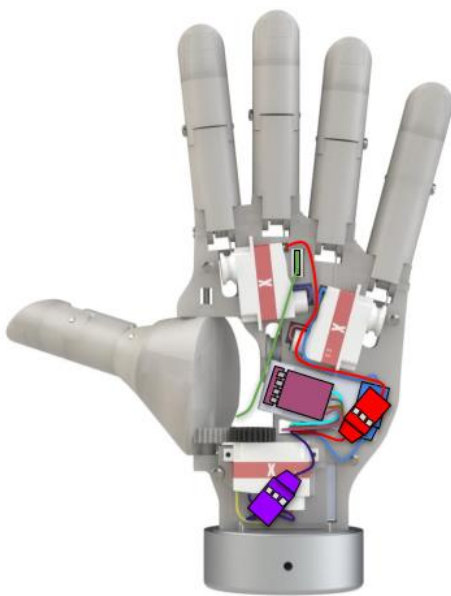

Figure 31a: Servo wire routing -
4. Follow **Figures 31a** and **31b** below for wire routing and Bluetooth module placement.